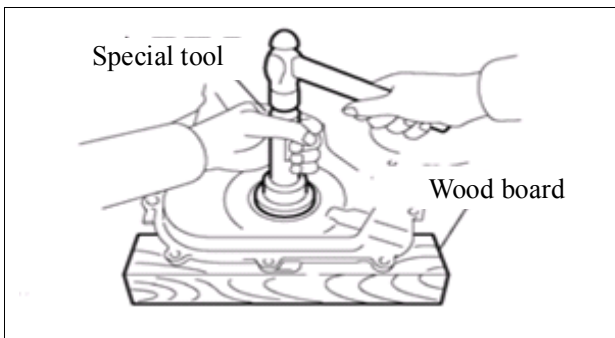

Fig. 1-56-31
- b) Hammer the crankshaft front seal into the front mask assembly with the special tool and make the oil seal end surface keep in line with the front cover shell end surface. (See Fig. 1-56-31)